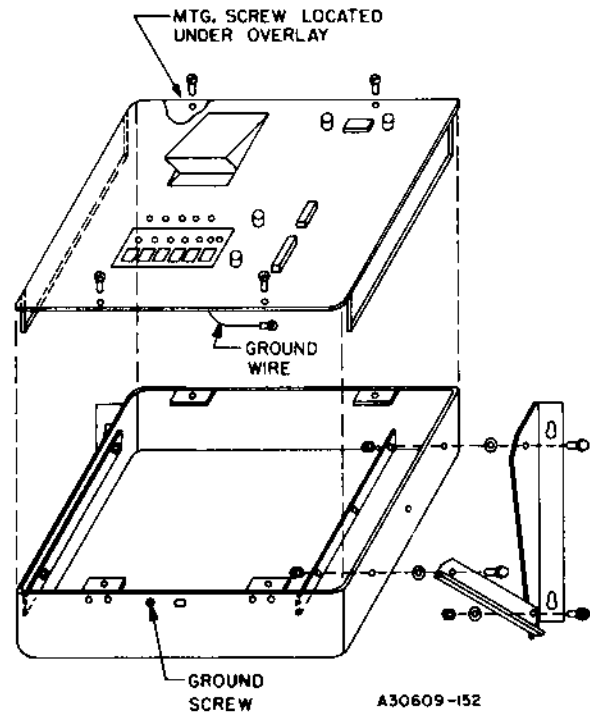

Figure B.2 — Horizontal Mounting
STEP 1B: For horizontal mounting: attach the horizontal brackets to the empty case, as shown in Figure B.2.